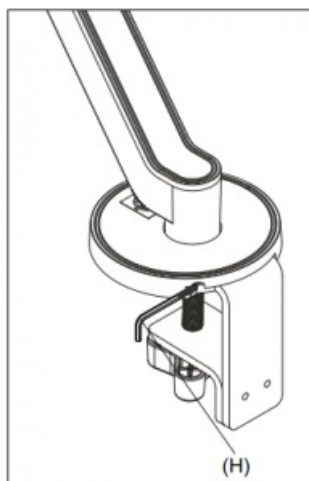

Figure 18
1. Slide 5/32" hex key (H) into channel located at the back of the base assembly. (See Figure 18)